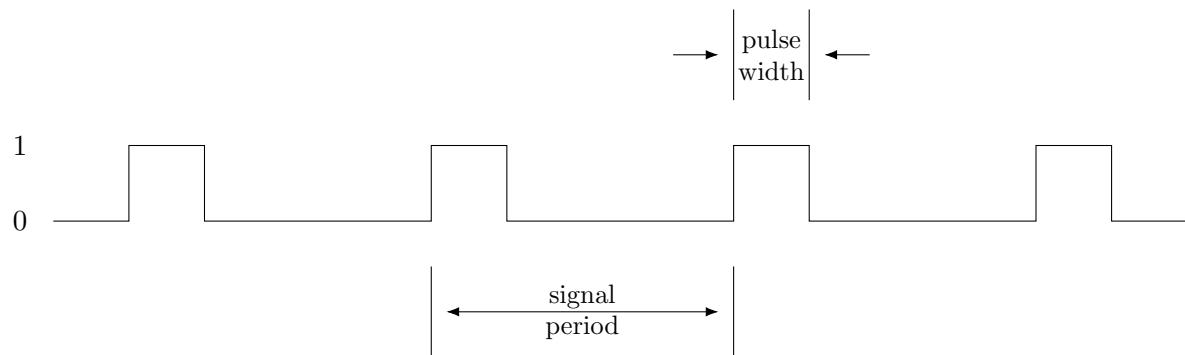

Figure 3: A PWM signal periodically sends a pulse. The *pulse width* encodes the information being transmitted; the *signal period* is how often the pulse is sent.
*width modulation* (PWM) is sufficiently useful that most microcontrollers can be configured to generate such a signal by setting a few of their memory-mapped I/O registers. We will not do that. Instead, we will directly form the signal by setting an output pin to 1 or 0 as needed. Figure 3 shows the relevant parameters of a PWM signal.